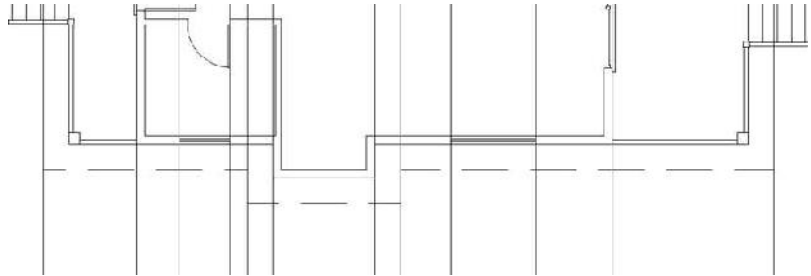

FIGURE 10.9: All the lines dropped down from the floor plan
5. Press Esc twice to end the command, and deselect the line. Your drawing should resemble Figure 10.9.